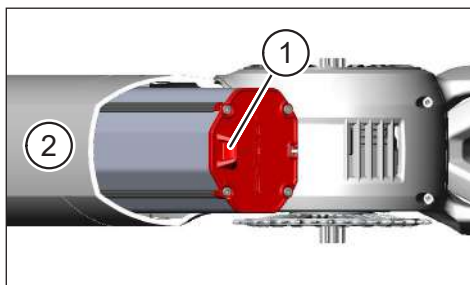

Fig. 13: Removing the battery from the down tube
- Use the recessed grip to pull the battery (No. 1 in Fig. 13) out of the down tube (No. 2 in Fig. 13).